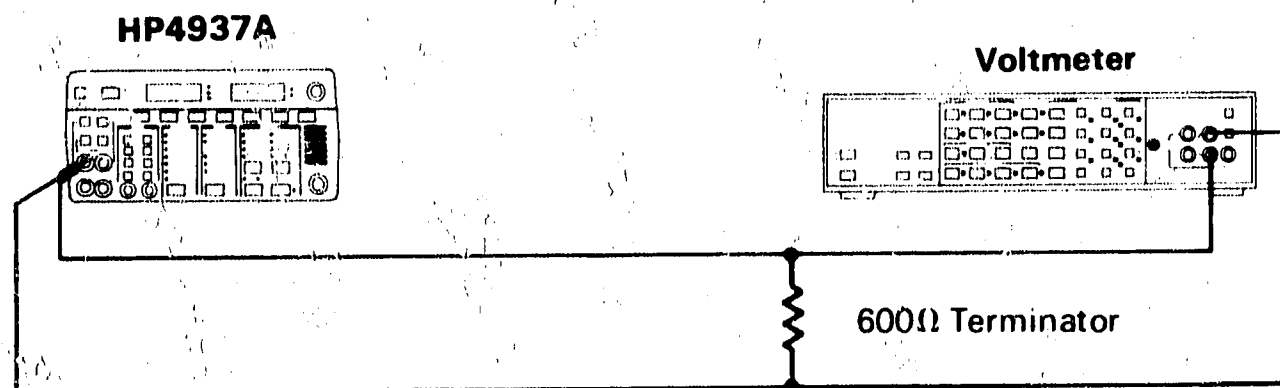

Figure 4-2. Transmitter Flatness Test at -40 dBm
1. Connect equipment as shown in figure 4-2.